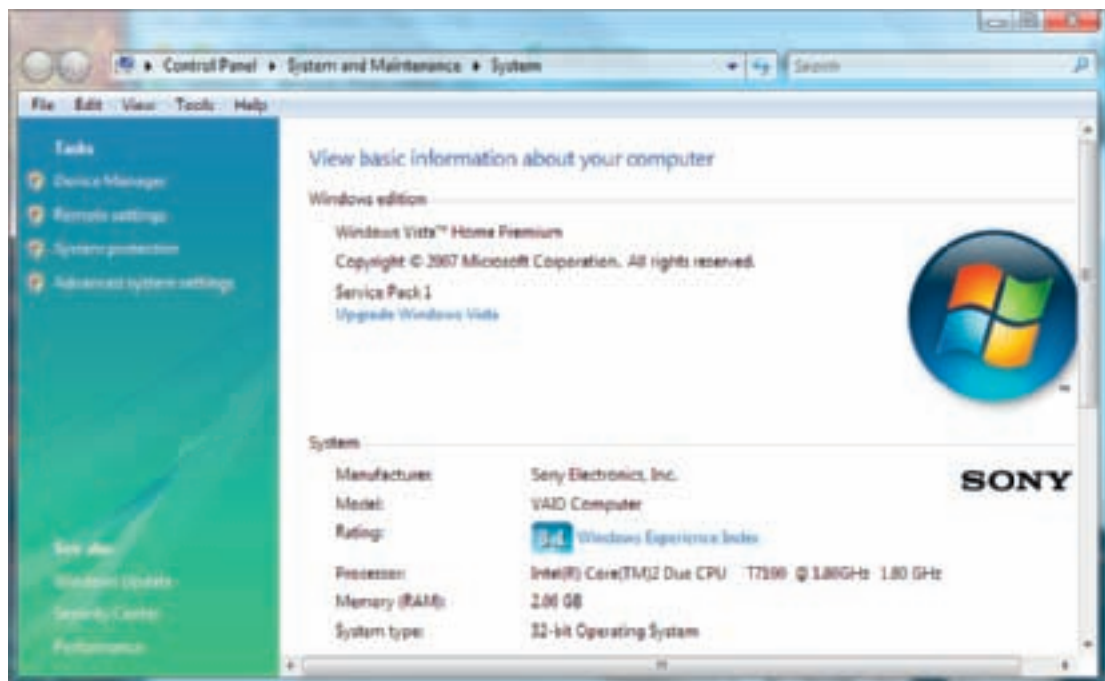

Figure 9-53 Windows Vista System window
- ▲ For Vista, click **Start**, right-click **Computer**, and then select **Properties** on the shortcut menu. The System window appears (see Figure 9-53). Click **Device Manager** and respond to the UAC box. The Device Manager window opens.